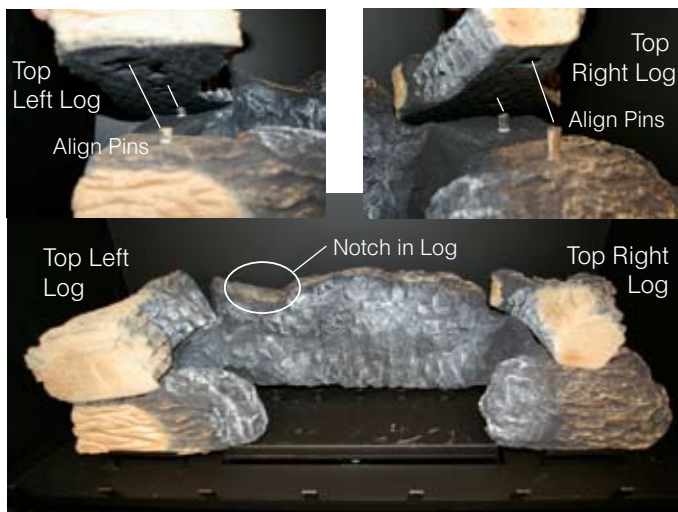

Figure 30d. Placing Top Right and Left Logs.
Step 5. Place the Top Right and Left logs using the (4) four alignment pins protruding from the top of the Right and Left Bottom Logs, as shown in *figure 30d*. With these pins align the Top Right and Left logs using the predetermined alignment holes cast into the underside of the logs, as shown above, *figure 30d* insets.
Step 6. Place the Centre Front log, *Figure 30e* below, as shown using the notch cast in the Bottom Rear log as shown in *figure 30d* above.